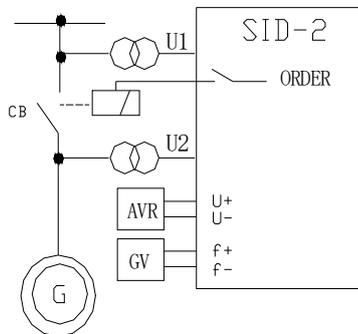

fig.1 Automatic synchronizing and paralleling
- 1 Automatic synchronization and paralleling of generators whit power lines, see Fig. 1 below